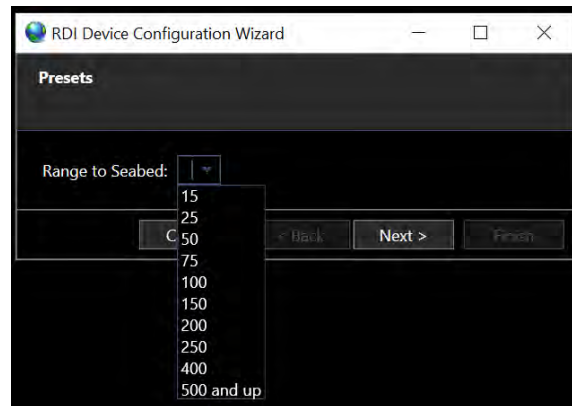

FIGURE 18-9 RDI DEVICE CONFIGURATION – PRESETS
- I. The first page of the setup wizard asks the user to choose a preset approximate range to seabed from the device, from the list (see Figure 18-9).